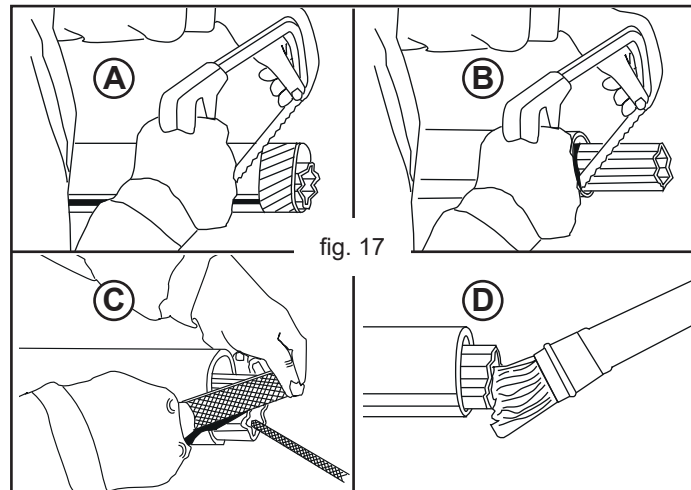

fig. 17
- 4) Shorten the telescopic tubes to the detected position (A-B, Fig. 17) (the excess part must be the same length on both tubes), trim and clean (C, Fig. 17) and grease the inside of the external tube (D, Fig. 17).